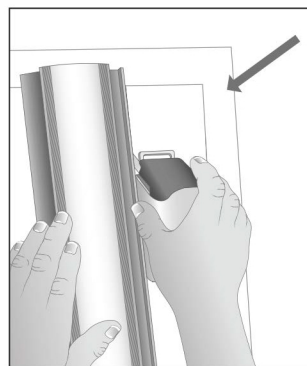

Fig. 3
- 4 With the blade positioned off the top edge of the material, push the **Cutting Head** downward. With **Cutting Head** fully depressed, pull the Cutter backwards along the **Channel Rail** and continue along the length of the material (**Fig. 3**).